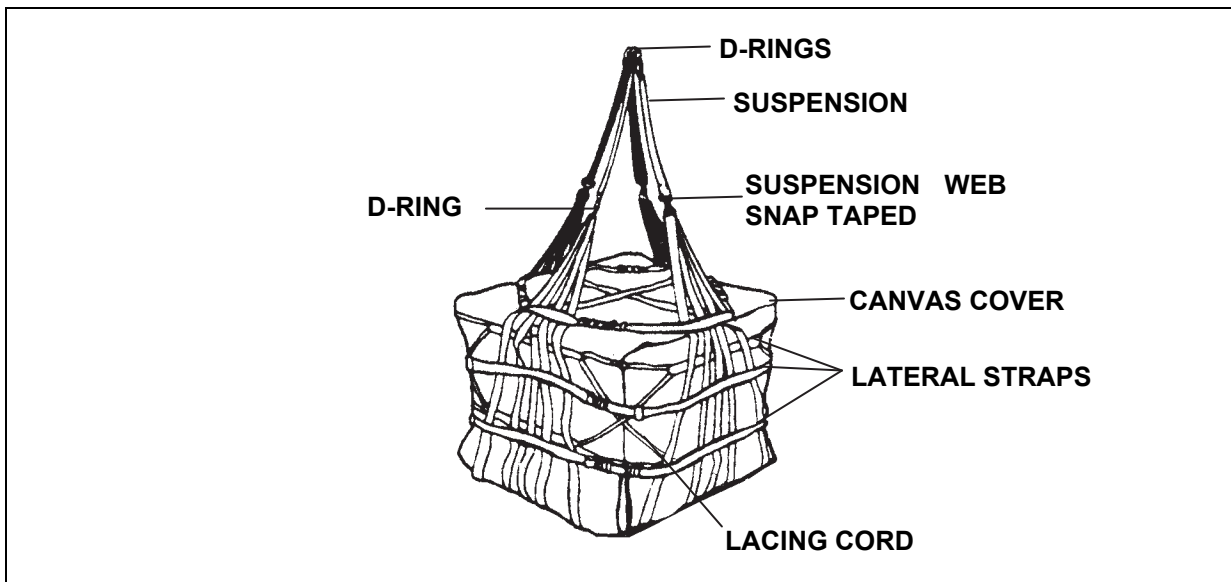
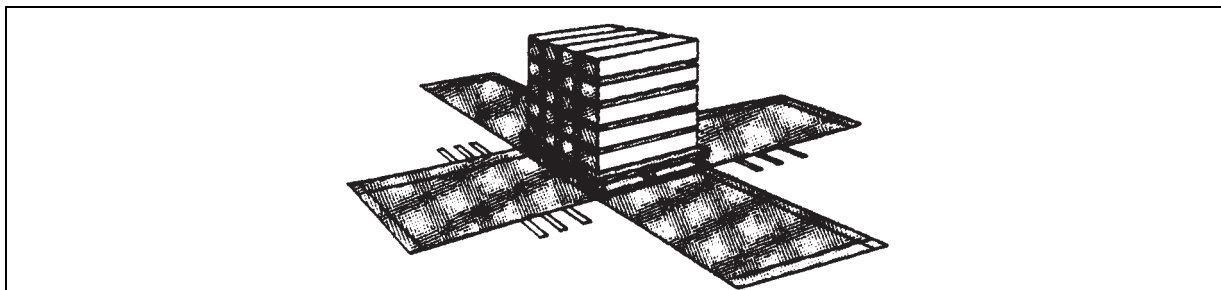

Figure 8-1. A-22 Cargo Bag
Figure 8-2. Centered Load
8-2. The A-22 cargo bag is an adjustable cotton duck cloth/nylon and nylon webbing container consisting of a sling assembly, cover, and four suspension webs (figure 8-1). The bag is used to deliver palletized loads, loose cargo, ammunition, drums, and other general cargo. Maximum weight capacity is 2,200 pounds. The weight of the A-22 is 58 pounds. You may rig the cargo in the bag with or without the cover. Inspect the container for serviceability in accordance with table 2-1, Preventive Maintenance Checks and Services, in TM 10-1670-298-20&P. The best way to learn about this carrying device is to rig and derig it several times. The following steps and figures 8-2 through 8-6 explain how to rig an A-22 cargo bag:
- **Positioning the Load.** Center the load on the canvas/nylon cover (figure 8-2). Place the load so that any sharp corners or objects are toward the center of the load if possible. Use cushioning material to protect the cover, if necessary.